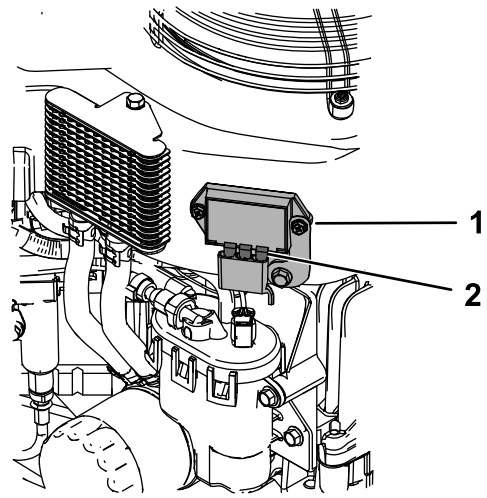

Figure 30
4. Lightly apply grease to the voltage regulator blades (Figure 30).